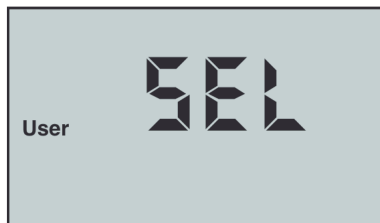

Figure 28
4. Press (CAL) (MCLR) key. The instrument will display “SEL” and the “User” icon (see Figure 28).